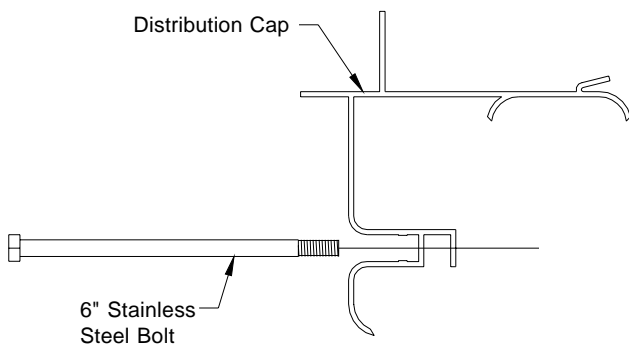
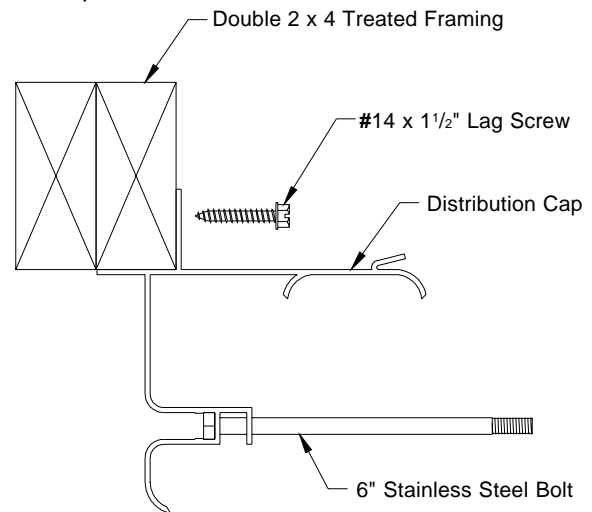

Figure 13A
Figure 13B
- 19) Slide 6" stainless steel bolts into distribution cap and drive into position using hammer and punch. Bolts must be completely seated in. **See Figure 13A.** Attach distribution cap to left end of framed opening using #14 x 1 1/2" Lag screws. Be sure that the lag screws go in square so as not to tip cap upward. **See Figure 13B & C.**